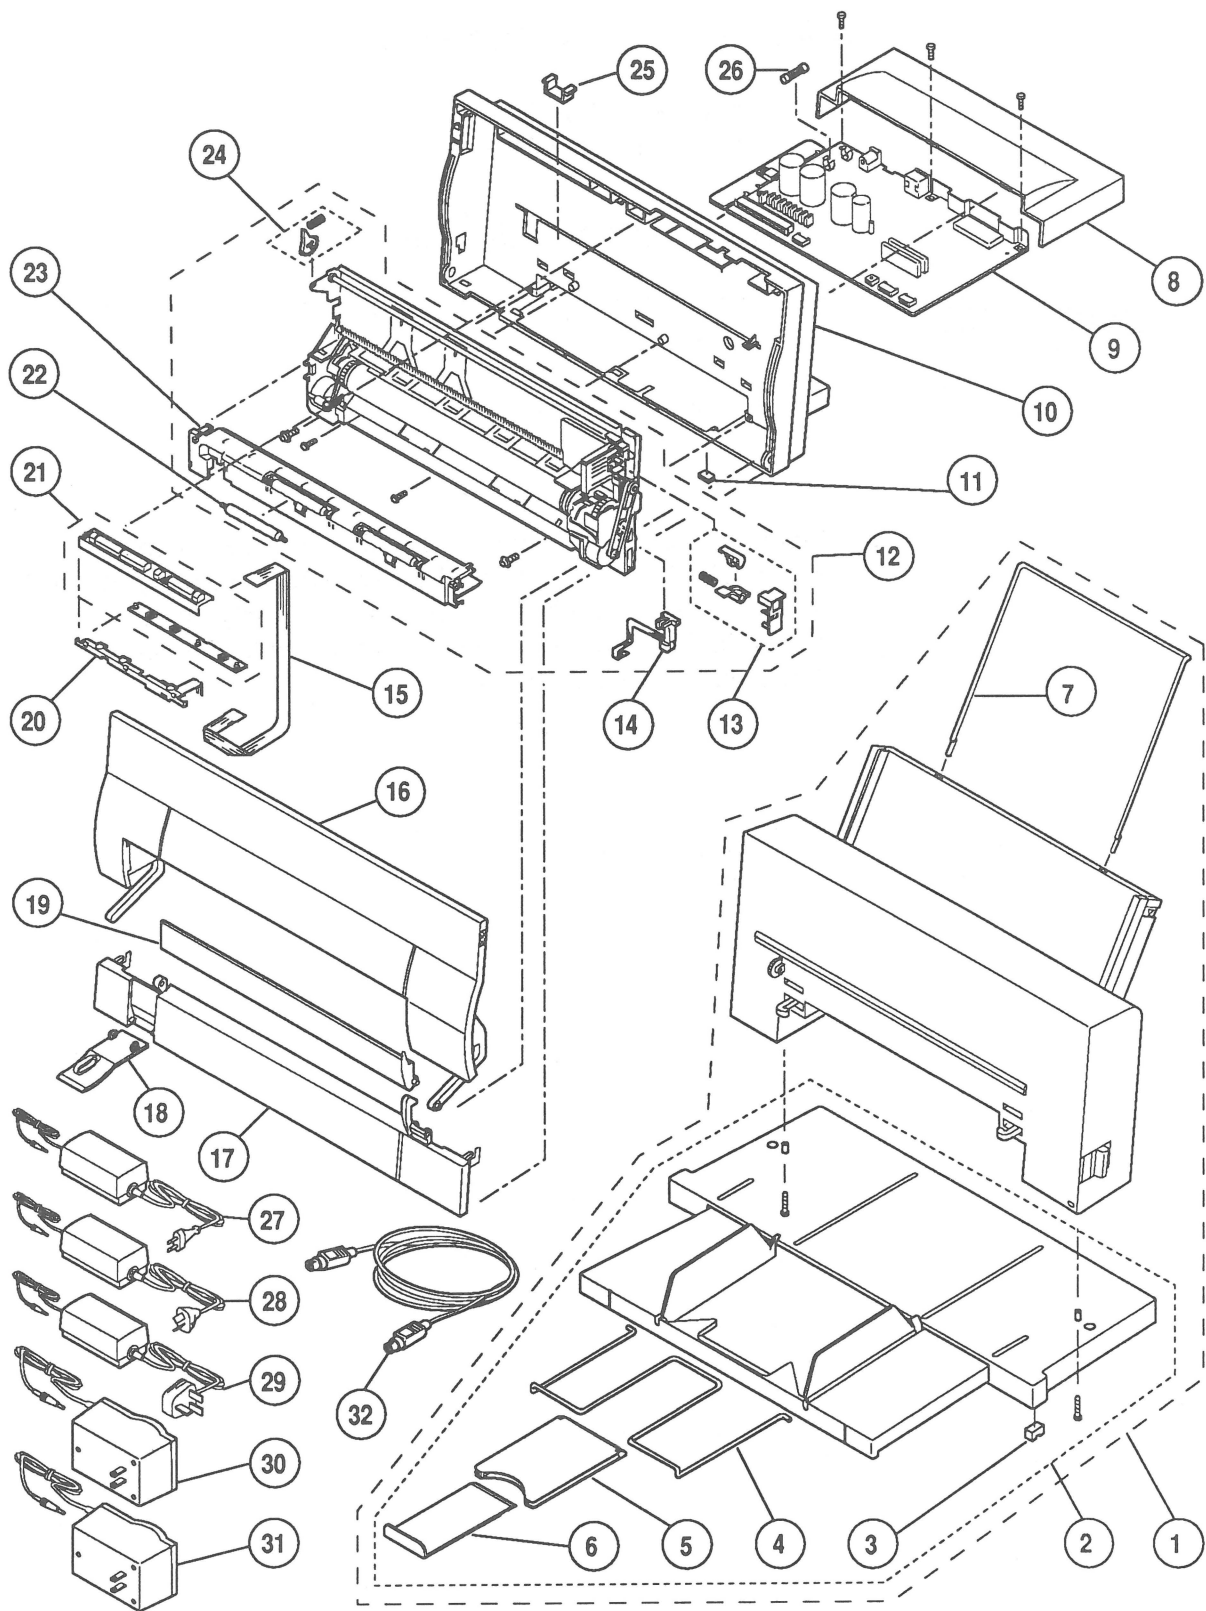

Figure 1 Exploded View
IPL.3 Exploded View (Figure 1)
Figure 1 includes all piece parts that can be purchased separately from Apple for the StyleWriter printer, along with their part numbers. These are the only parts available from Apple. Refer to your *Apple Service Programs* manual for prices.
□ EXPLODED VIEW (Figure 1)